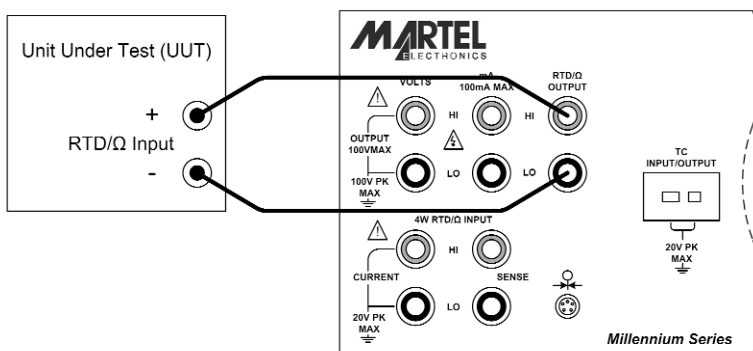

Figure 13 - RTD/Ω Output Connection
- Connect the unit under test to the RTD/Ω output terminals of the 3001 as shown in figure 13.